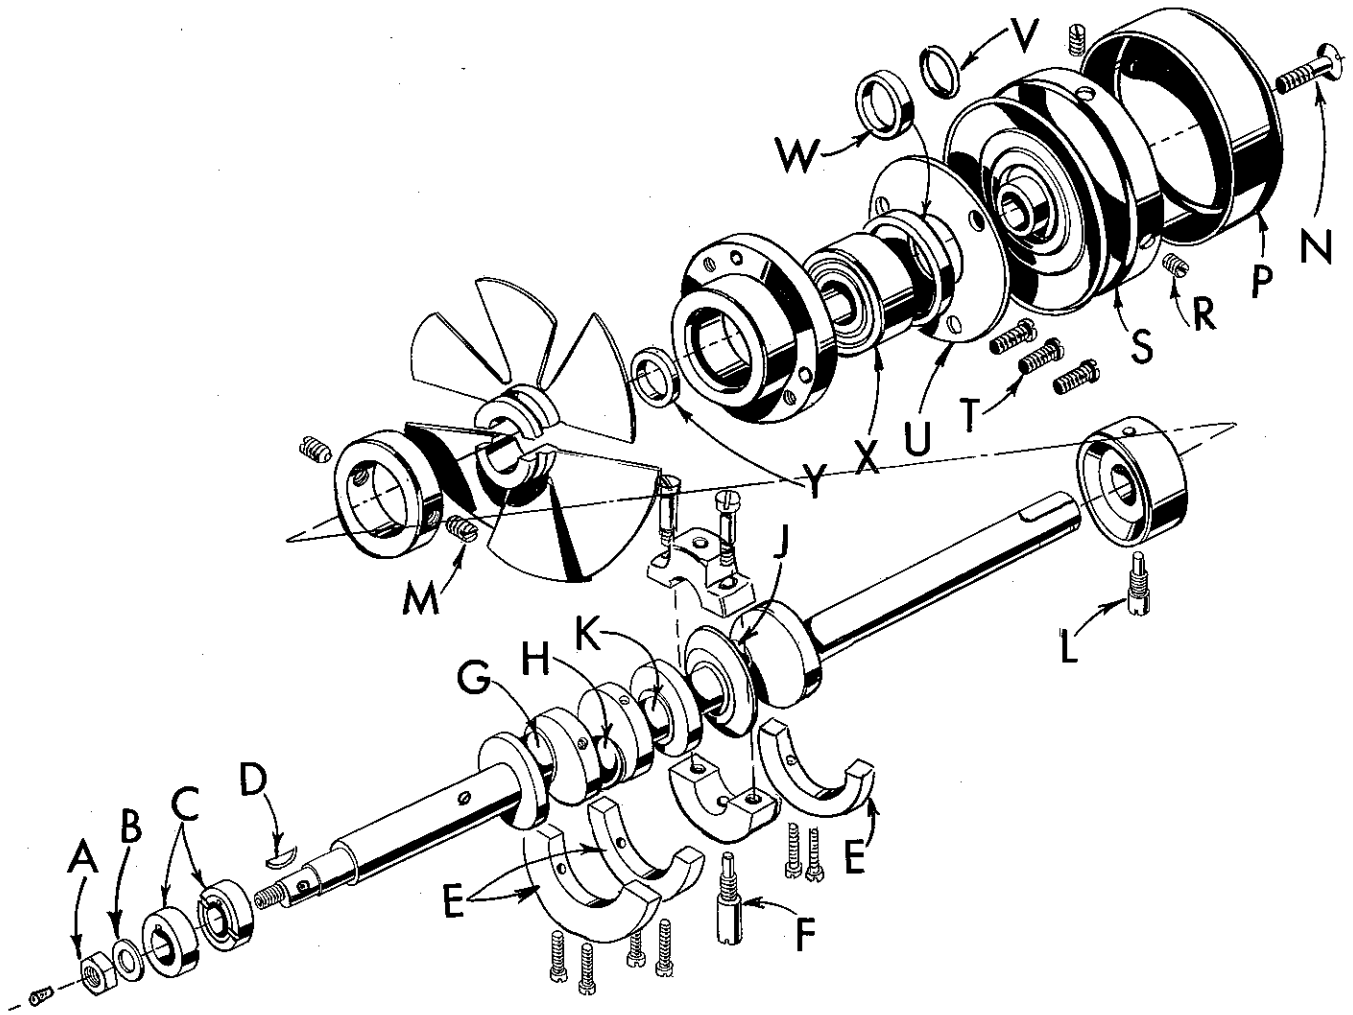
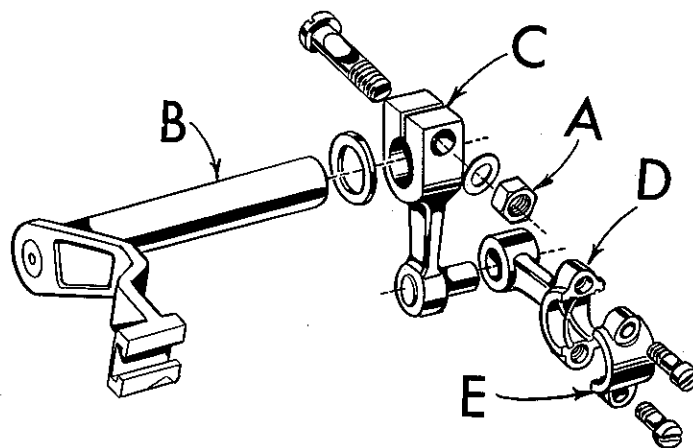

Fig. 15
Fig. 16
3. Remove feed eccentric nut (A, Fig.15) and washer (B), and, with the aid of the eccentric extractor, slip off the eccentrics (C).
4. Remove key (D).
5. Remove three counterweights (E). Identify these counterweights so that they will be re-assembled in the proper places.
6. Remove screw (F) which holds crankshaft split bearing. This screw is reached through bottom of bed casting.
8. Loosen clamp nut (A, Fig. 16) which holds upper knife driving arm (B). Access to clamp nut is through top cover. Draw driving arm to the left until upper knife driving lever (C) and connecting rod (D) drop, allowing removal of bearing cap (E). This is at bearing point (K, Fig. 15) on crankshaft. Observe same precautions when re-assembling cap as described in 7 above.
9. Remove screw (L, Fig. 15) which holds inner right crankshaft bearing. This screw is reached through bottom of bed casting.
10. Loosen two screws (M) in fan collar; remove both halves of cooling fan.
11. Remove screw (N); take off pulley cap (P).
12. Loosen two screws (R); remove pulley (S).
13. Remove three screws (T); take off bearing retaining plate (U); also, spacer collars (V) and (W) may be removed at this time.
15. If necessary to replace ball bearing (X), it should be pressed off shaft on an arbor press. In replacing bearing it must be pressed on carefully until it seats against ground thrust washer (Y).